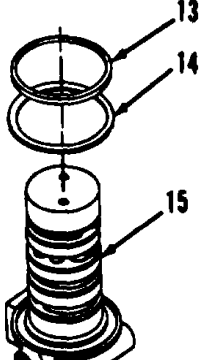

Figure 12-32.
- 1. Remove two screws (1), retainer (2) and shim (3).
- 3. Remove four bolts (6), lockwashers (7) and cover (8).
- 4. Remove and discard four preformed packings (9).
- 5. Using bearing puller attachment, remove items (10 and 11).
- 6. Remove and discard seven seals (12) and preformed packings (13).
- 7. Remove and discard seals (14 and 15) from rotor (16). (Figure 12-32).